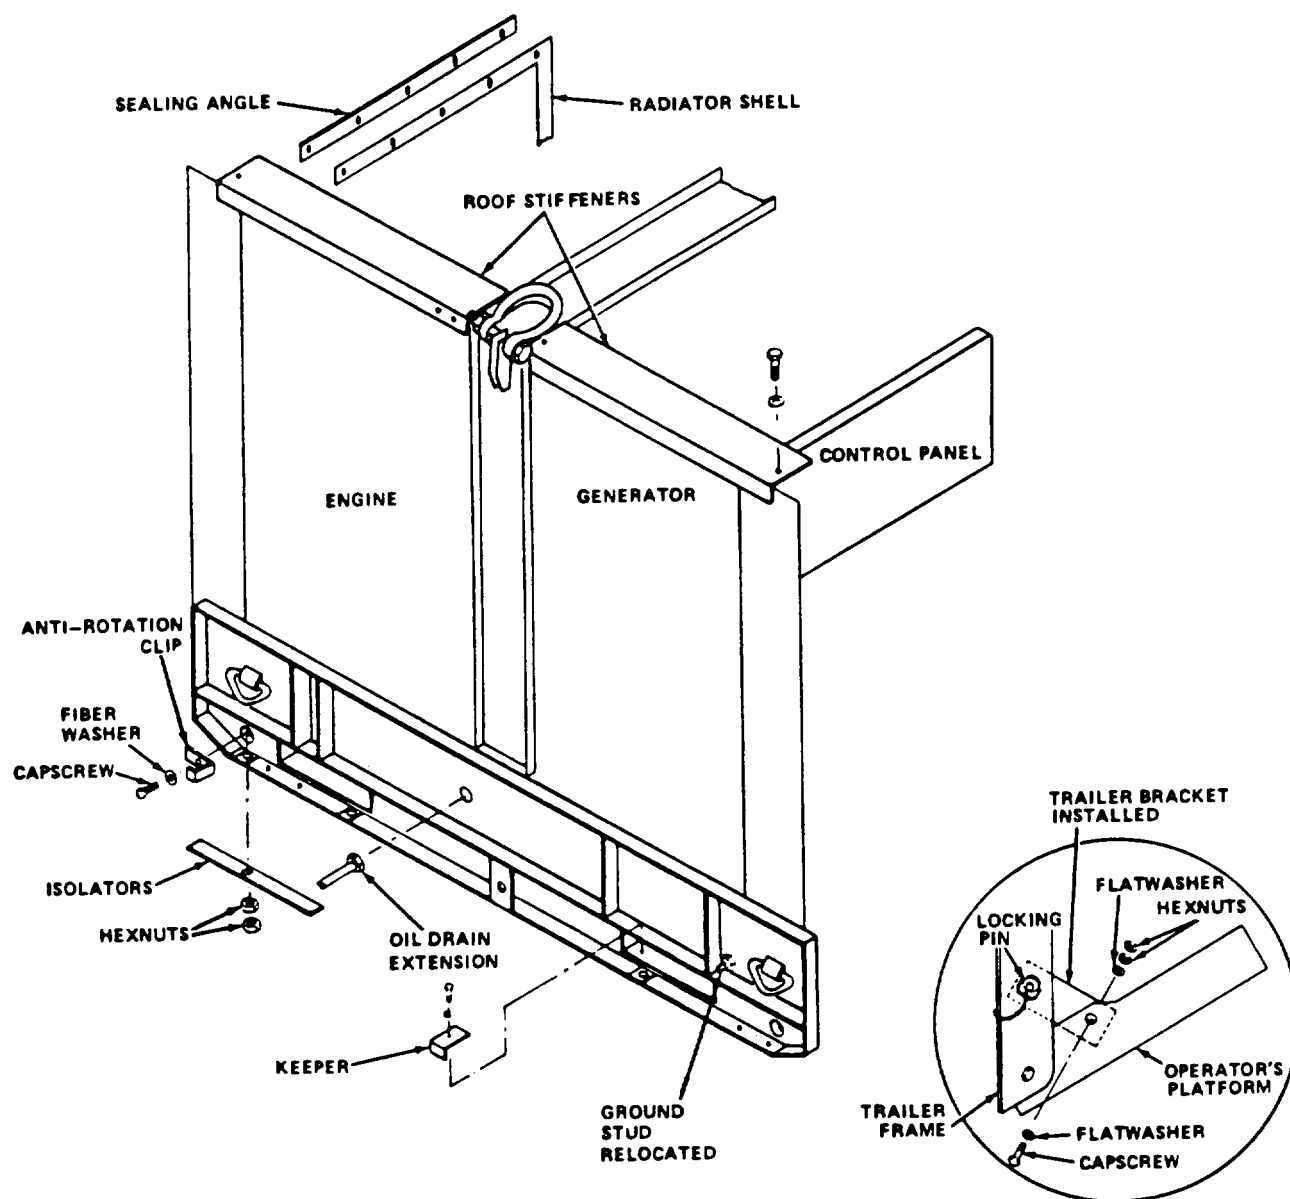
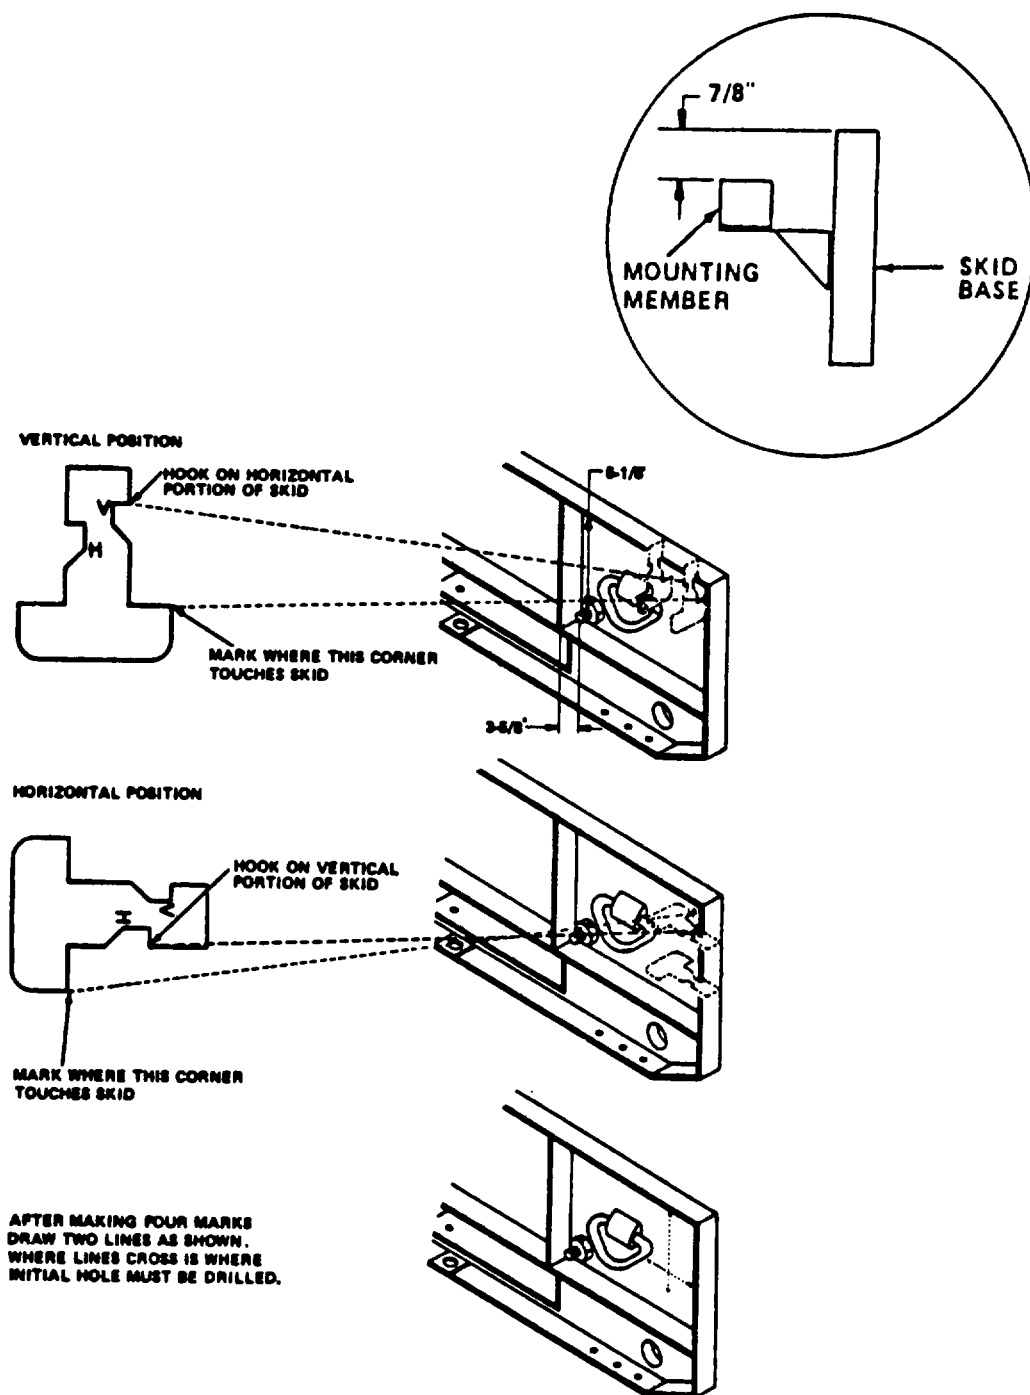
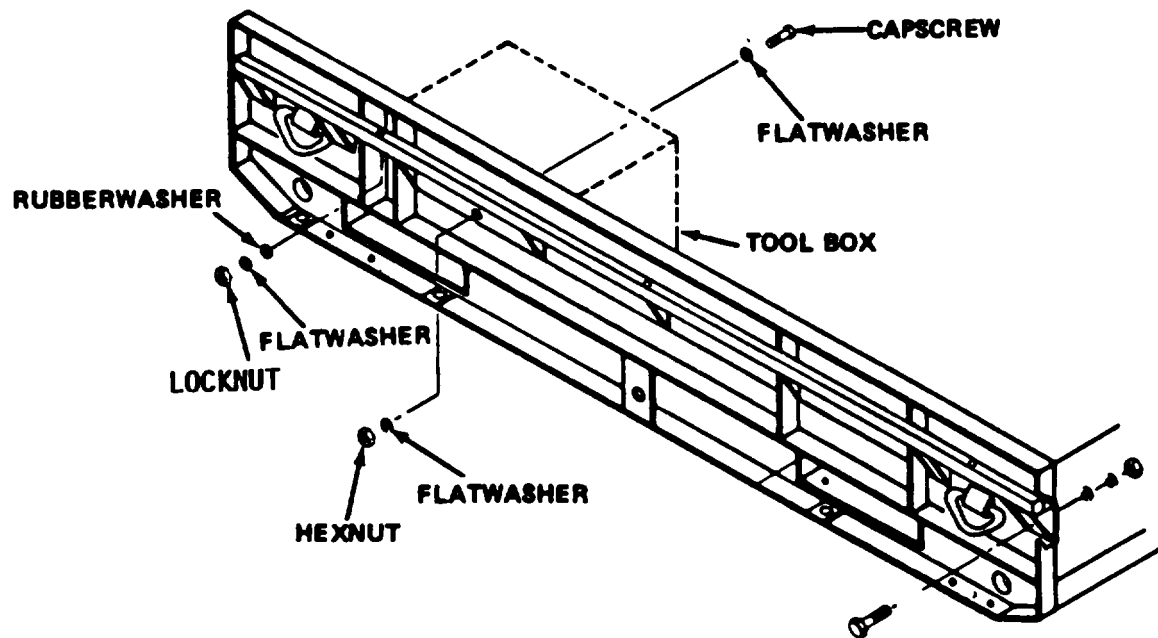

Figure 5-34. Roof Stiffeners, Sealing Angle, Oil Drain, Isolators, Bottom Panel Tray Assembly, and Trailer Brackets
Figure 5-35. Hole Locations on Skid Base Assembly
Figure 5-36. Mounting Hardware and Hole Location for Side Panel Assembly
- (3) Locate left rear tiedown on skid base. Remove ground stud. Measure 5-1/8 inches down from lip of skid base, and 3-5/8 inches from vertical lip of skid base. Center punch where two lines meet. Refer to figure 5-35. Using ground stud as a guide, drill two holes in skid base. Install ground stud in holes. Remove ground plate and install under ground stud. (Refer to figure 5-34.) It maybe necessary to remove wire ties from the ground wire wiring harness to attach the ground wire to the ground stud.
Location of first hole is critical. Read steps(1) thru (4) and study figure 5-35 carefully before marking and drilling first hole. Failure to observe this caution could result in equipment damage.
- (1) Using template supplied with acoustic suppression kit in vertical position, mark rear of skid base in two positions. (Refer to figure 5-35.)
- (2) Using template in horizontal position, mark rear of skid base in two positions. (Refer to figure 5-35.)
- (3) After making four marks, draw a vertical and horizontal line through the marks. (Refer to figure 5-35.)
- (4) Where lines cross, drill a 1/2-inch hole. (Refer to figure 5-36.)
- (5) Position mounting member on skid base, and install the capscrew, flatwashers, lockwasher, and nut.
- (6) Position the mounting member until it is parallel to the top of the skid base. Mounting member's top surface should be 7/8 inch lower than top of skid base. (Refer to figure 5-36.) Use a C-clamp to hold mounting member in position.
- (7) Measure mounting member along skid, and using mounting member as a template, drill end hole, and install capscrew, washers, lockwasher, and nut. Measurement from top of mounting member to top of skid base bar must be 7/8 inch before holes are drilled. (Refer to figure 5-35.)
- (8) Drill holes and install remaining capscrews, flatwashers, lockwashers, and nuts on mounting member. Heads of capscrews must be outside of skid. (Due to location of tool box, one capscrew must have head positioned in tool box.) (Refer to figure 5-36.) This capscrew is longer than other capscrews. Do not tighten capscrews.
- (9) Repeat steps (1) thru (5) for mounting member on other skid.
- (10) Remove oil drain plug. Install fitting, hose, and clamp supplied with acoustic suppression kit.
- (11) Position roof stiffeners and sealing angle on generator set. Install hexhead capscrews and lockwashers to secure roof stiffeners. Do not tighten cap-crews on sealing angle. (Refer to figure 5-34.)
- (12) Using a suitable lifting device, raise generator set and place 6"x6" blocks under skids. Lower generator set onto blocks.
- (13) Grease inside of generator set skids with grease (GAA).
- (14) Using a suitable lifting device, raise generator set, remove 6"x6" blocks, and place 2"x4" blocks under skids of generator set. Lower generator set onto 2"x4" blocks. Ensure blocks are under skids only. Do not remove tension from lifting device.
- (15) Slide bottom tray under generator set. Ensure weld nuts are positioned in down position. Weld nuts should be centered on fork lift tunnel holes.
- (16) Raise bottom tray assembly, and install keepers, washers, and capscrews to secure one side of bottom tray assembly. (Refer to figure 5-34.)
- (17) Raise generator set, and remove 2"x4" blocks. Place a 1 "x4" block under bottom tray assembly on other side and slowly lower generator set to push bottom tray assembly into position. Rubber must not bend or be allowed to tear loose when generator set is lowered.
- (18) Install keepers, washers, and capscrews to secure the bottom tray assembly. (Refer to figure 5-34.)
- (19) Raise generator set, and remove 1"x4" block. Lower generator set and remove lifting device.
- (21) Install three rubber washers, three flatwashers, and three locking nuts supplied with kit in bottom of side panel. Ensure rubber flaps are flat against radiator and are pointed forward. Remove plastic plug and feed oil drain hose through side panel hole. (Refer to figure 5-36.)
- (22) Remove lifting sling from side panel.
- (23) Repeat steps (20) thru (22) to install other side panel.
- (1) Raise side panel skirts, and install ground wire. Install anti-rotation clips and fiber washers on capscrews, and install capscrews. Lower side panel skirts.
- (2) Glue isolators on skid base or surface of trailer. (Refer to figure 5-34.)
- (3) Lower generator set onto trailer. Attach ground wire to trailer.
- (4) Install washers and nuts on capscrews to secure generator set.